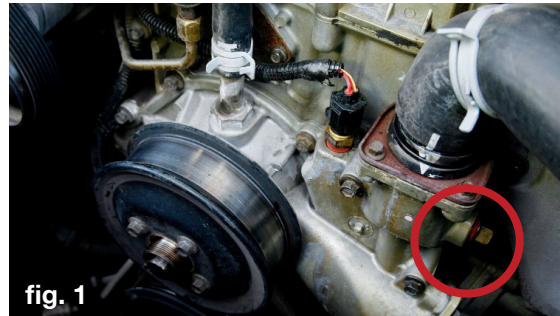

fig. 1
- 4** Remove the plug from the side of the water pump housing at the upper radiator hose neck to drain coolant. The coolant filter inlet hose will connect to this port in step 10. (**fig. 1**)